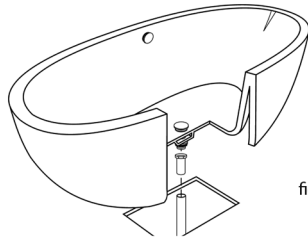

figure 7
15. **Carefully** set tub into position (figure 7) and connect the drain hardware (previously installed). Finish the installation of the tail-piece.